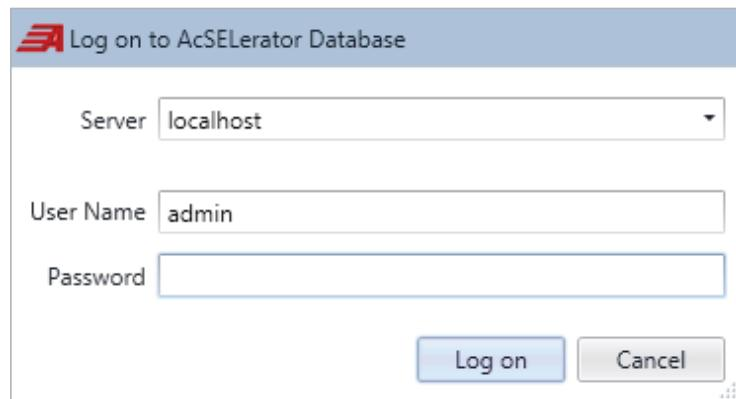

Figure 40 ACSELATOR Database Log On Window
- Step 1. Select the **Device Manager** icon at the QuickSet Welcome screen, as shown in *Figure 39*. This opens the **Log on to AcSELerator Database** window shown in *Figure 40*.